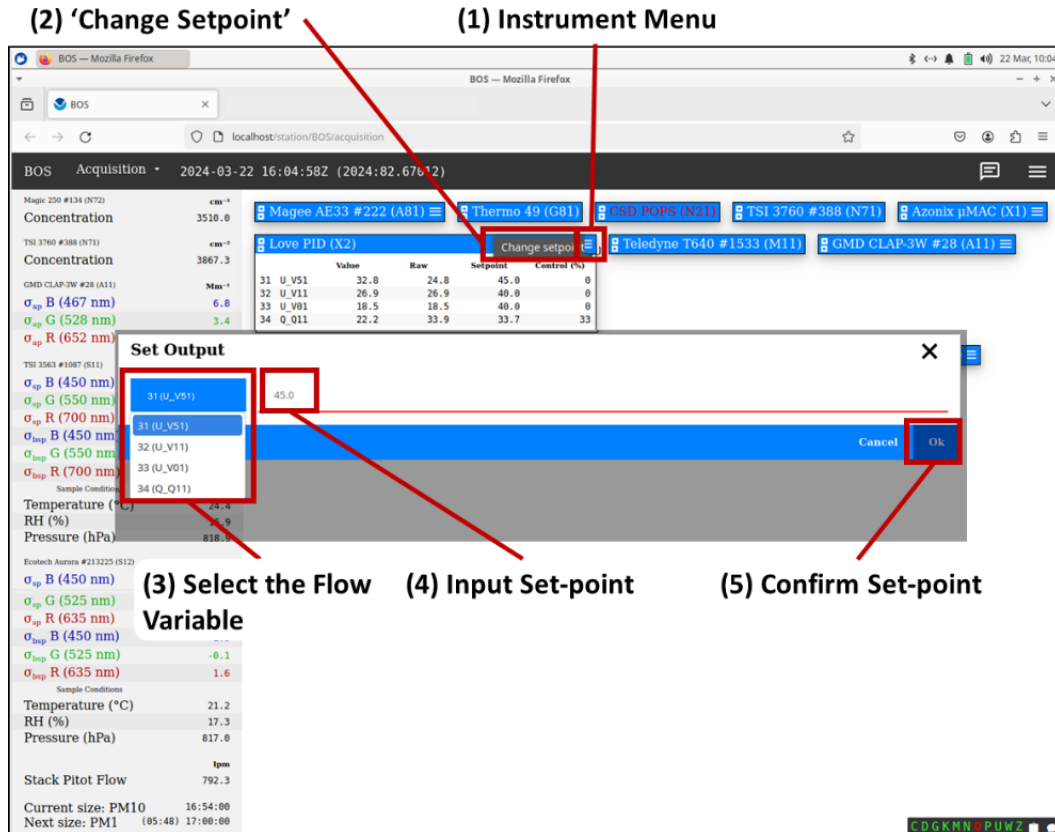

Figure C6: Visual steps for changing the PID set points using the FORGE acquisition interface.
2. Use the PID setpoint control to adjust the flow over a range of values centered around the typical flow rate for the impactor box (30 lpmv). To change the setpoint using the FORGE acquisition interface select the blue button for the 'Love PID', then open its instrument menu and select 'Change Setpoint'. A box will come up with a drop-down menu. Select the flow variable (starts with 'Q'), input the new set-point, and press 'ok' to confirm the new set-point (**Fig. C6**).